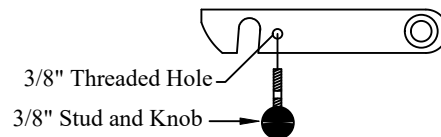

Figure 14: Original Series platform latch knob.
1. **Install** the two (2) knobs on the platform latches (Original Series only) see (Figure 14).
2. **Install** the two (2) square plastic insert nuts for the license plate into the square holes on the liftgate.
3. **Install** the license plate using the two (2) stainless steel screws provided.